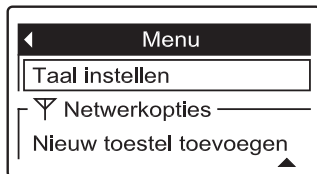

FIG. 104
From the rolling status screens, press SELECT (○). Press DOWN (▼) to scroll through the list until the line immediately **above** the antenna (Y) symbol is highlighted (See Figure 104), then press SELECT (○). Press UP (▲) to scroll to **English** at the top of the list, then press SELECT (○) twice. Press LEFT (◀) to exit the menu.